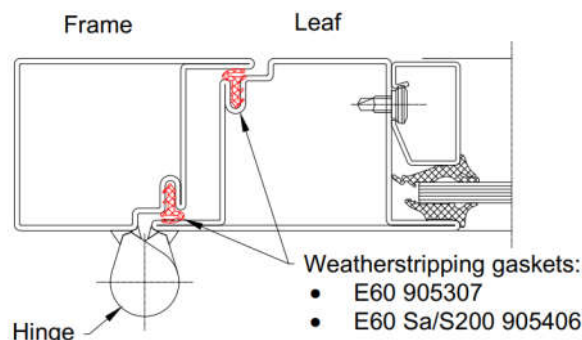

Figure 4 Installation of weatherstripping gaskets
13. During installation, make sure that the weatherstripping gasket is installed in the right direction (Figure 4).